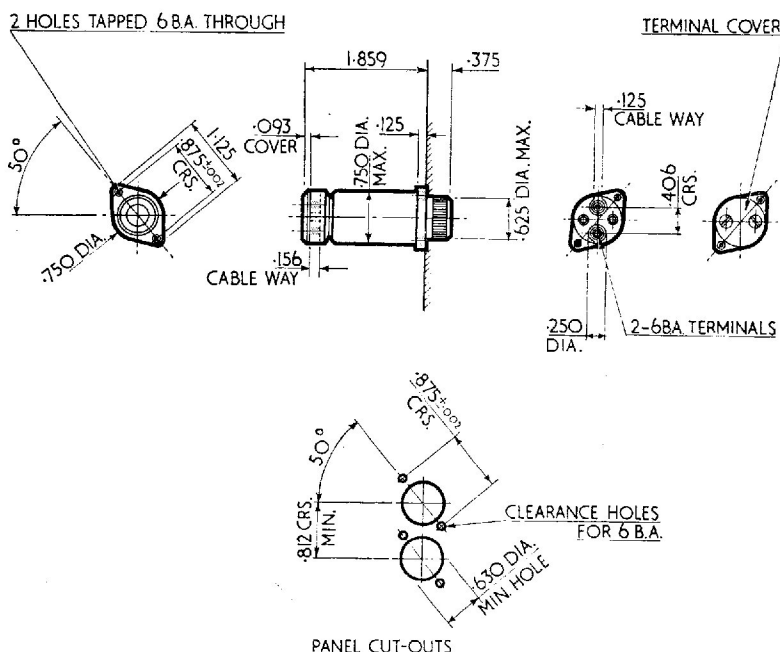

Fig. 2. Installation drawing
3. The lamp is assembled to the mounting panel with two 6B.A. fixing screws (*fig. 2*). Two holes tapped 6B.A. through are provided